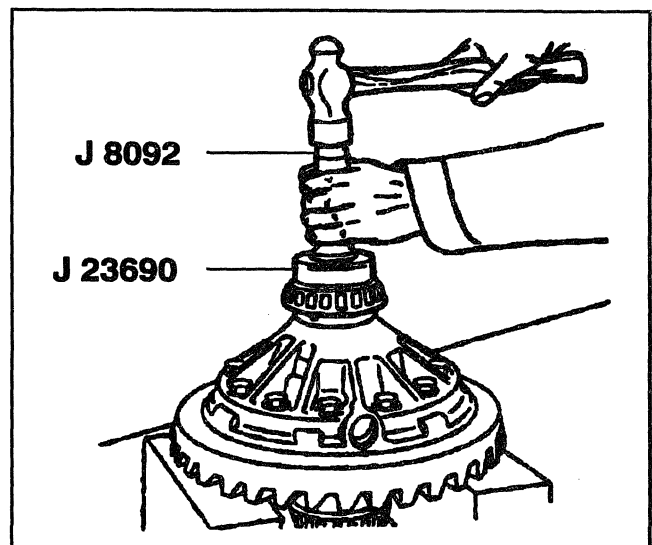

Figure 15—Installing Differential Bearings
7. Differential side bearings (18) using J 24429 and J 8092 (Figure 15).
8. Differential case (34) to the axle housing. Refer to "Side Bearing Preload Adjustment" in this section.